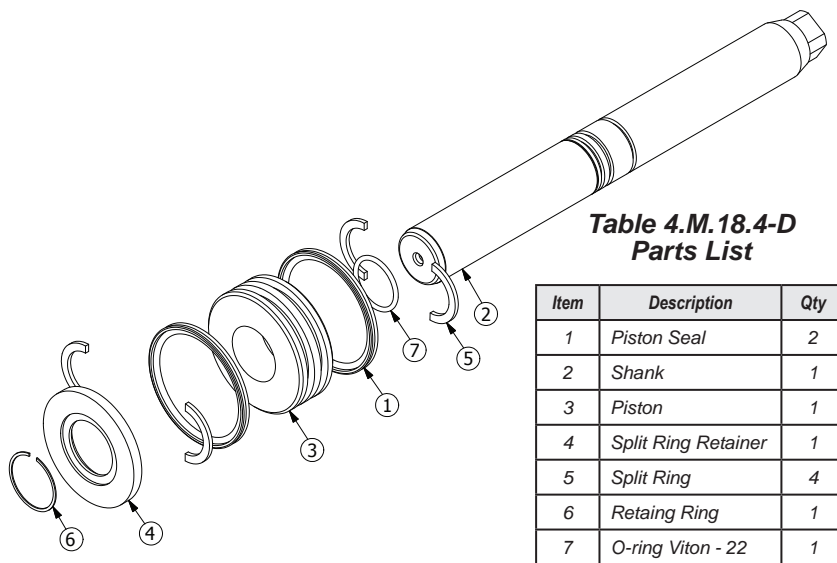

Figure 4.M.18.4-D L10000 Shank Rebuild
- Refer to Figure 4.M.18.4-D and remove the retaining ring (6). Care must be taken not to scratch the finish of the shank.
- Slide the split ring retainer (4) off exposing the first set of split rings (5).
- Separate the split rings (5) and slide the piston disk (3) off. The second set of split rings should now fall off.
- Remove the O-ring (7) from the shank (2) and both piston seals (1) from the piston disk (3). These three items can be thrown out once you have located the new replacements from your rebuild kit.